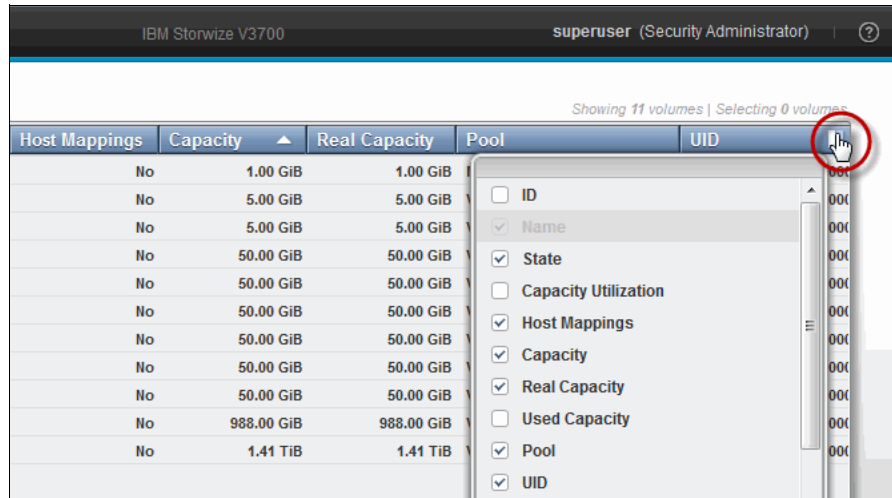

Figure 3-20 Adding columns icon
- It is also possible to add or remove columns by clicking the icon at the far right of the heading bar, as shown in Figure 3-20.